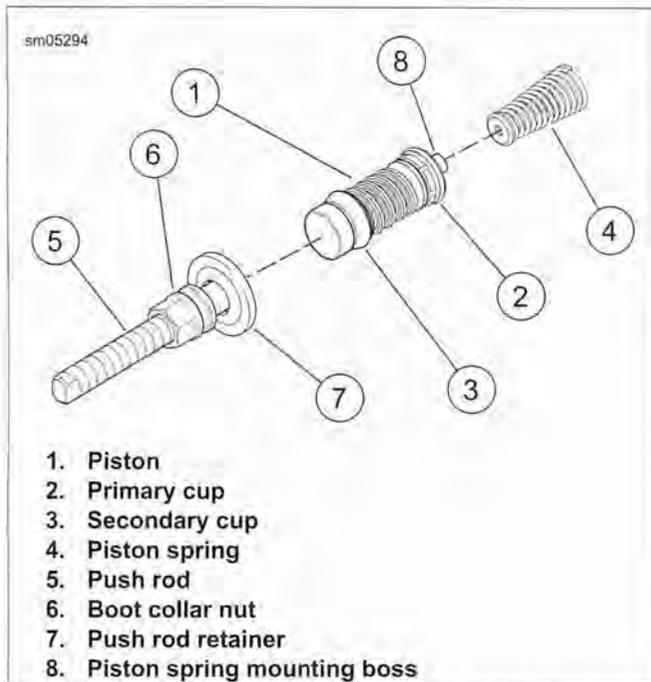

Figure 2-83. Rear Master Cylinder Piston, Push Rod and Spring Assembly
4. See Figure 2-83. Lubricate master cylinder bore, **new** piston (1) with **new** secondary cup (3), and **new** primary cup (2) with CCI #20 BRAKE GREASE supplied in the service parts kit.